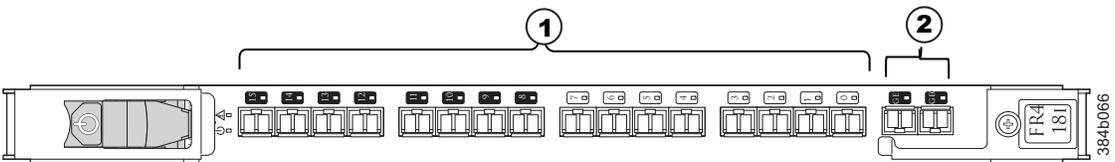

Figure 59. FR4-18i routing blade
- Figure 59 on page 146 shows an FR4-18i routing blade